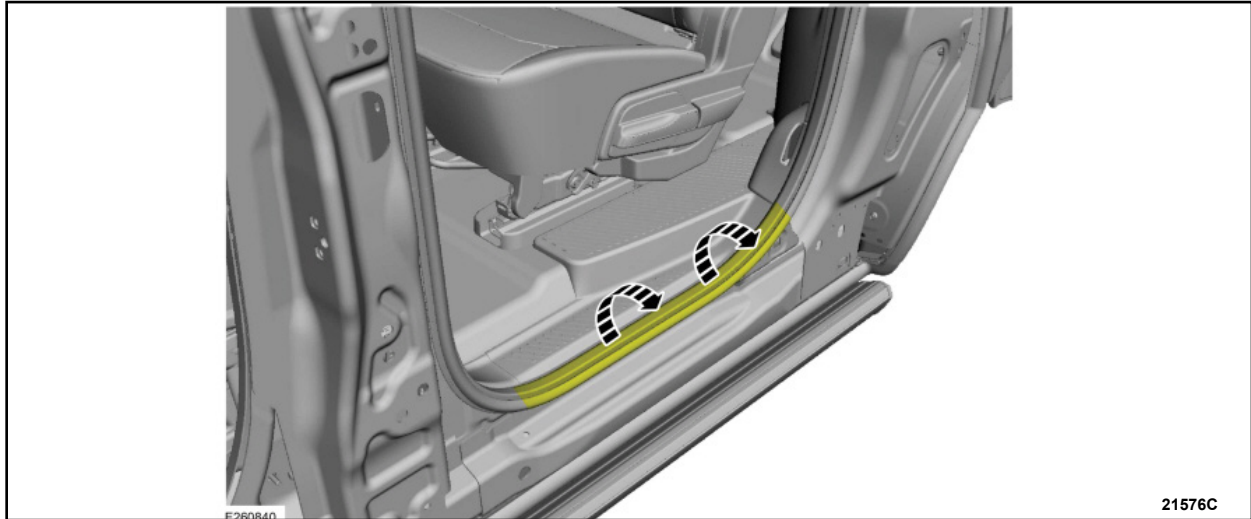

FIGURE 11
3. Position the rear door weatherstrip aside. See Figure 11.